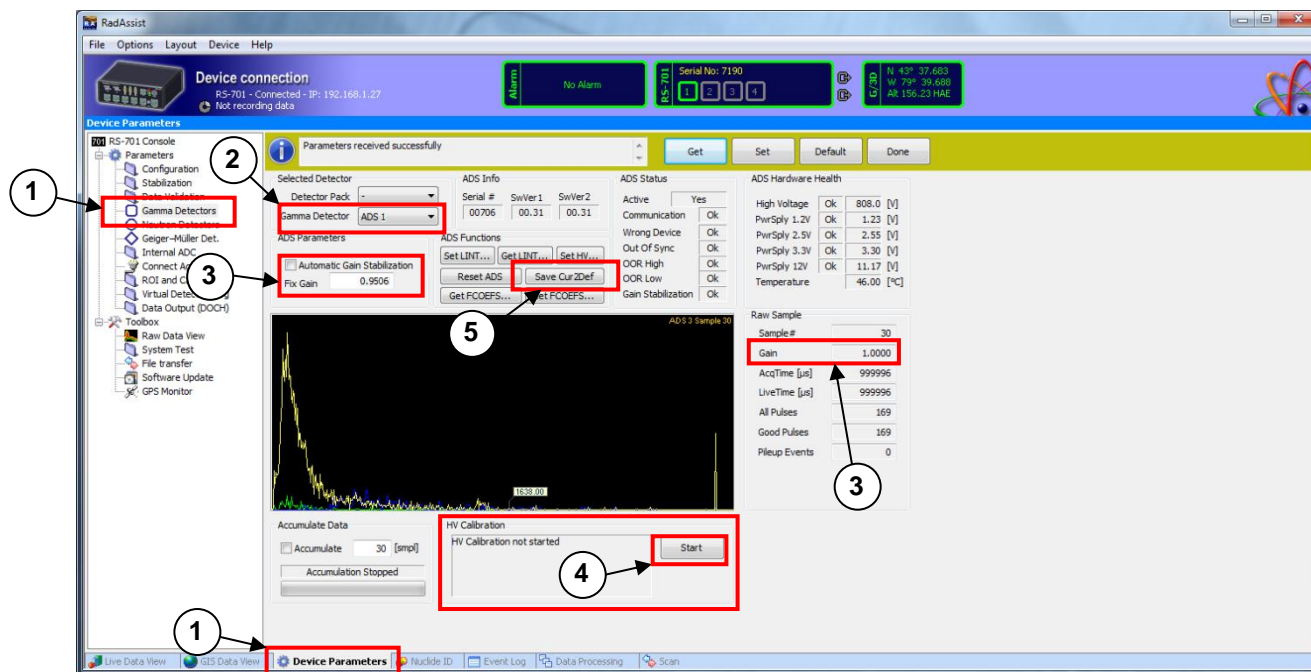

Figure 5-2 - Gamma Detector Screen
### A - Automatic HV Calibration using a Cs-137 source: See Figure 5-2
1. Select the [Device Parameter] tab and select [Gamma Detectors] from the parameter list as shown in Figure 5-2.